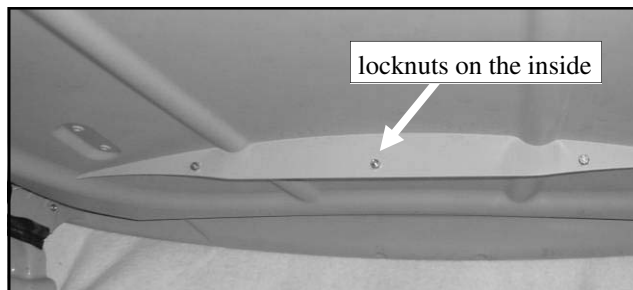

Fig. 3.1a (front support rib, shown from vehicle rear)
3.1 Per Fig. 3.1a & 3.1b, drill three holes in the roof's front support rib. All three holes are  $\frac{1}{2}$ " up from the bottom of the plastic flange. Locate the first hole directly in the center. From the first hole, locate the other two holes at  $8\frac{1}{4}$ " on both the left and right side of center. Install the supplied snaps so the locknuts are inside as shown in fig. 3.1a.